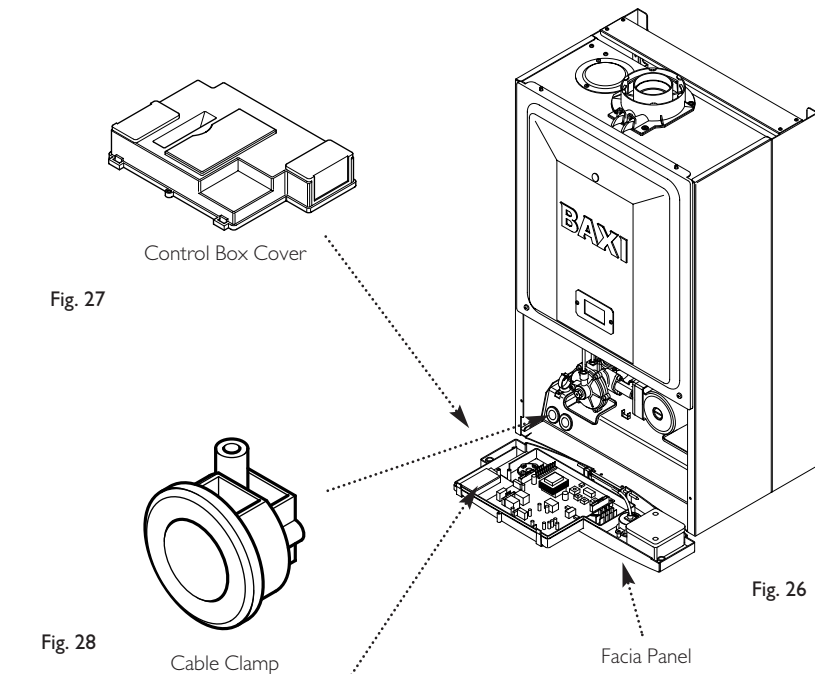

Fig. 26
2. Completely undo the screws securing the fascia panel and hinge it down (Fig. 26).